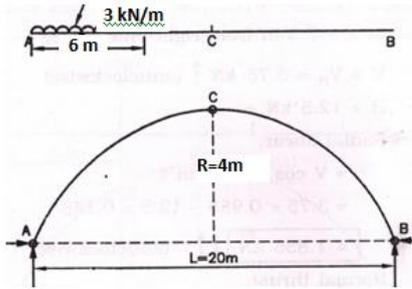

Figure-5
- (c)** As shown in figure-5, A three hinged parabolic arch of span 20 m & having 4 m of central rise is loaded by uniformly distributed load of 3 kN/m over left 6m span. Calculate (a) direction and magnitude of reactions at hinges (b) Bending moment, Normal Thrust and radial shear at 3 m from left end. **07**